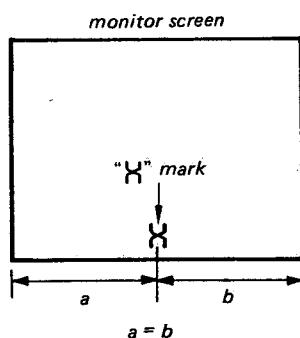

Fig. 3-19
- 2) Adjust CV360 to position the "X" mark at the center of the monitor screen ($a = b$). (See Fig. 3-19.)